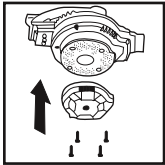

Fig. 5
6. Set back the entry cap and the four screws (Fig. 5)